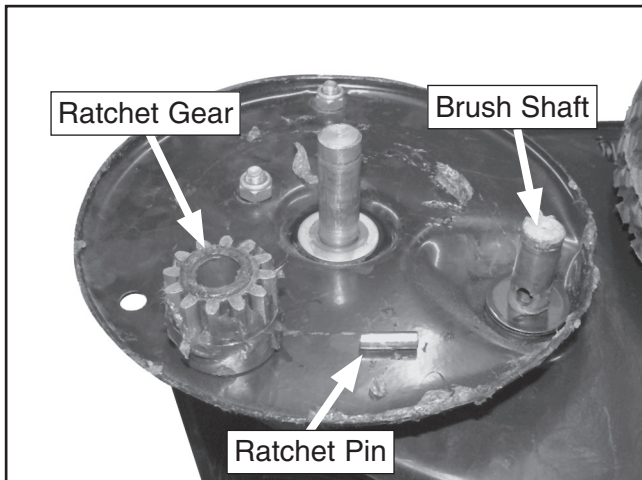

Figure 25. Ratchet gear assembly.
3. Remove the ratchet gear, the spacers on either side of the ratchet gear, and the ratchet pin (**Figure 25**).